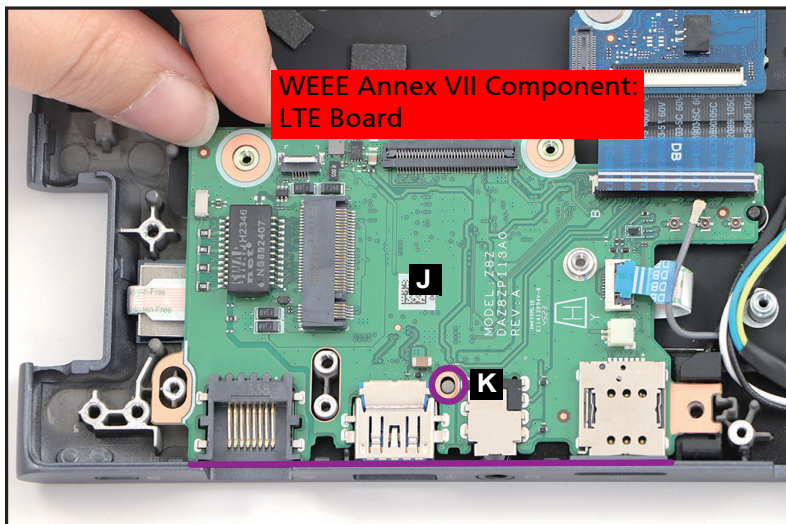

Figure 1-43. LTE Board Removal
10. Release the LTE board (J) from the I/O port slots and guide pin (K) on the top assembly (Figure 1-43). Then remove the LTE board.